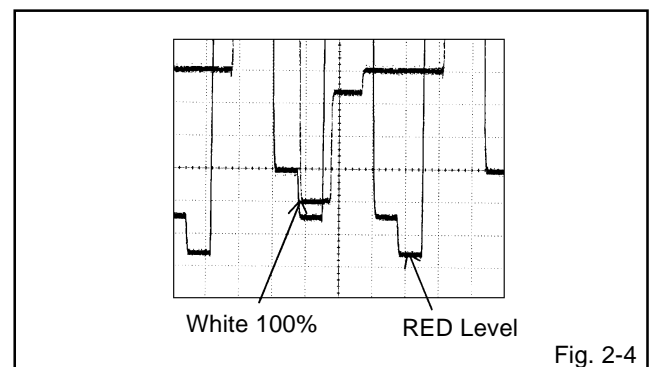

Fig. 2-4
12. Press the VOL. UP/DOWN button on the remote control until the red color level is adjusted to 135% of the white level. (**Refer to Fig. 2-4**)